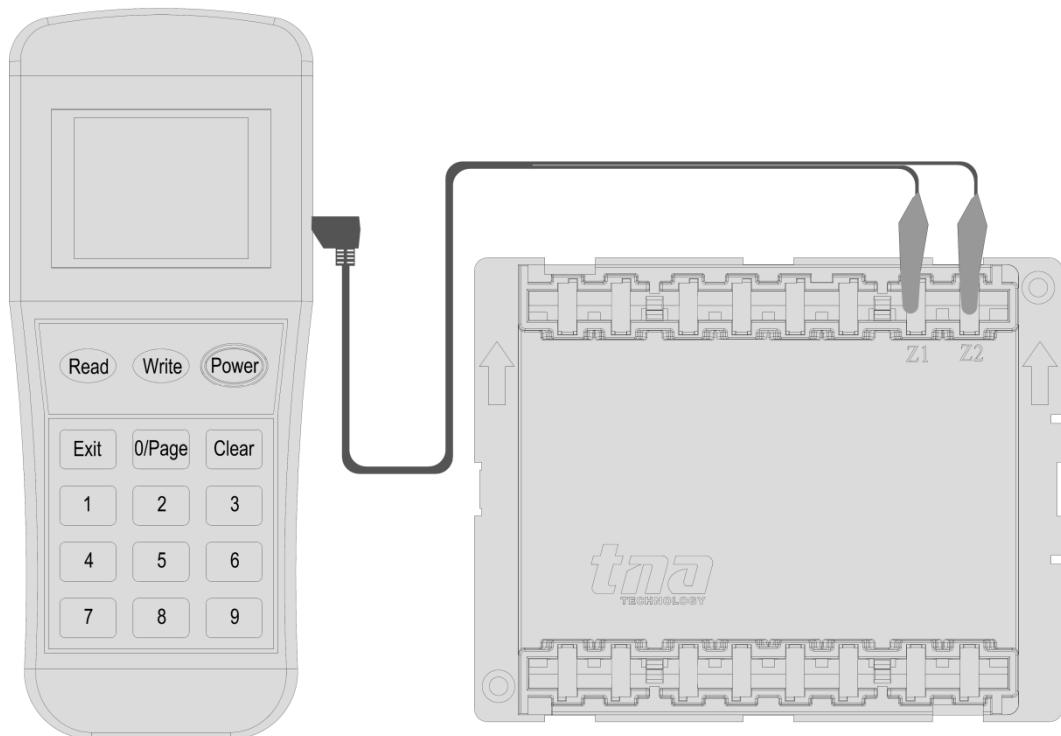

Figure 3: Programmer Connection Detail
1. Connect the programming cable to Z1 and Z2 terminals (Figure 3). Press “Power” to switch on the unit.